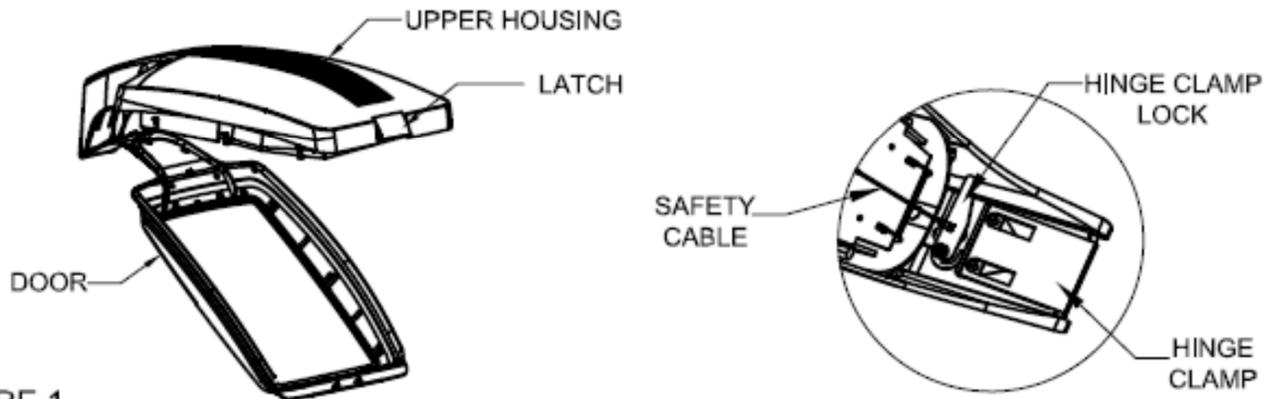

FIGURE 1
1. FIRST REMOVE EXISTING DOOR BY PULLING THE LATCH UPWARD TO OPEN THE DOOR. OPEN DOOR AS FAR AS THE SAFETY CABLE WILL ALLOW, DISENGAGE SAFETY CABLE FROM THE DOOR, WHICH WILL NOW ALLOW THE DOOR TO OPEN FURTHER AND WILL GIVE ACCESS TO THE HINGE CLAMP LOCK. ROTATE HINGE CLAMP LOCK TO FREE HINGE CLAMP. PULL HINGE CLAMP AWAY FROM THE HINGE. CAREFULLY ROTATE THE DOOR TOWARDS THE CLOSED POSITION UNTIL HINGE DISENGAGES, SEE FIGURE 1 BELOW,